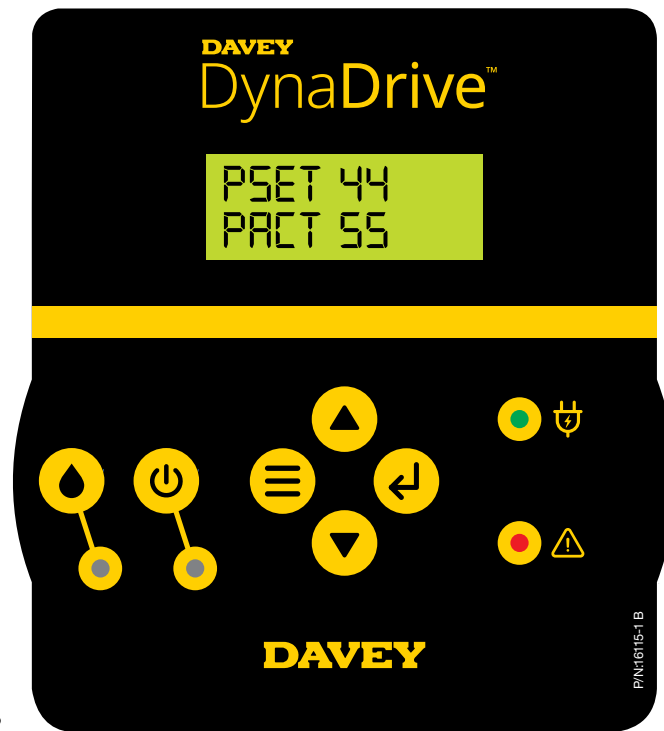

Figure 6.12
- Press ↵ **Enter button**, or ≡ **Menu button** to return to the **HOME SCREEN**, see figure 6.12;